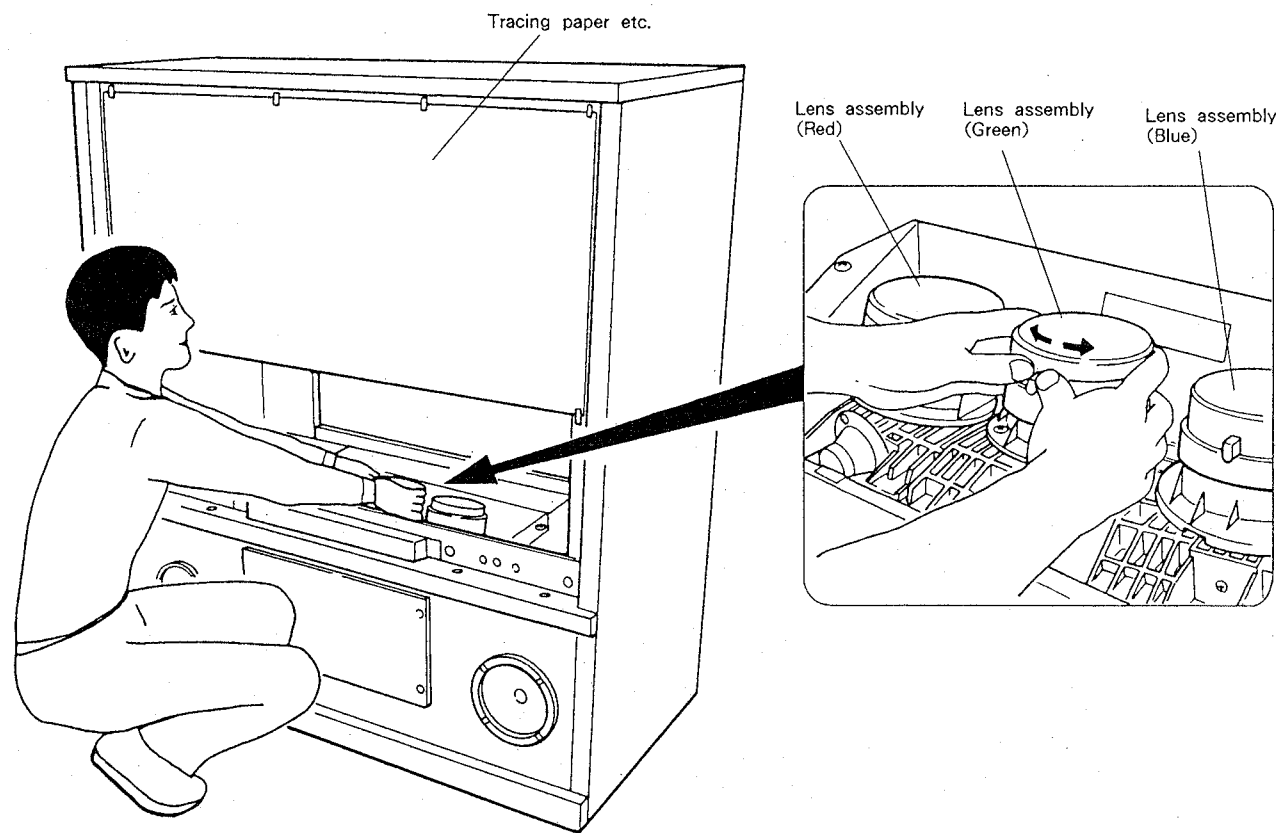

Fig. 9-9 Adjustment point (4)
- Remove the lenticular sheet, and attach tracing paper with a plastic tape, etc. instead. (Refer to Fig. 9-9.) Adjust the focus of the lens assembly newly mounted, by observing the picture shown on the tracing paper.